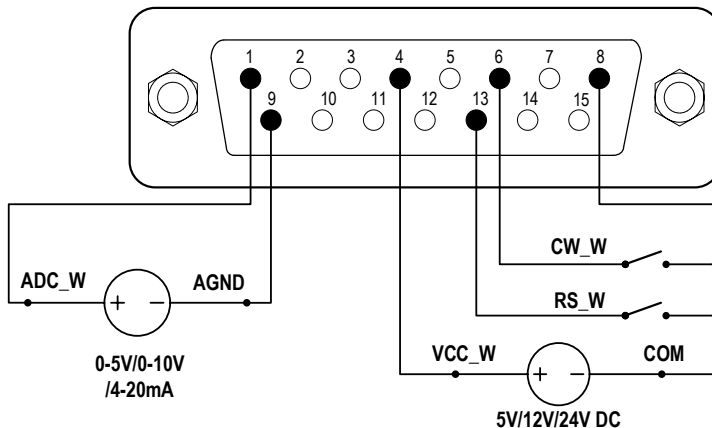
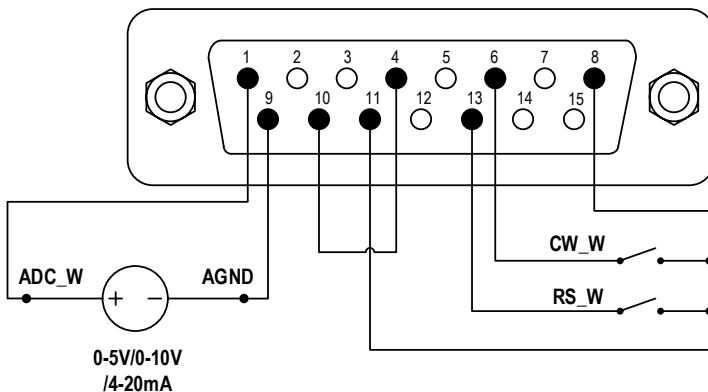

Figure 14. DB15 Wiring with External Power Source
Figure 15. DB15 Wiring with the Internal 12VDC Power Source
- 1) Switch the power off. Wire the DB15 connector as shown in Figure 14 or Figure 15. Connect it to the DB15 port on the rear of the pump.